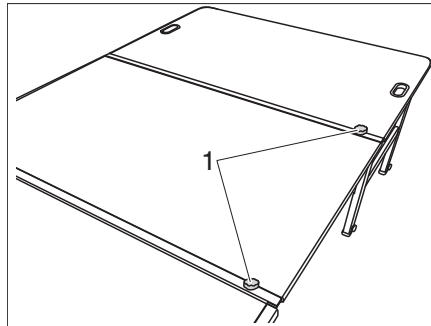

Fig. 34 Fit the safety mechanism
- Screw the star screws (Fig. 34,1) into both rail connectors to secure them.